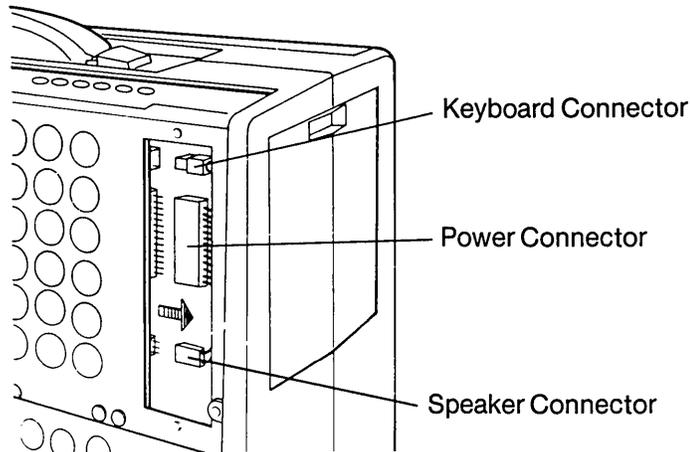

Figure 11-12. Disconnecting the Keyboard Connector, Power Connector, and Speaker Connector.
10. Locate and disconnect the following processor board connectors: keyboard connector, power connector, and speaker connector (see Figure 11-12).